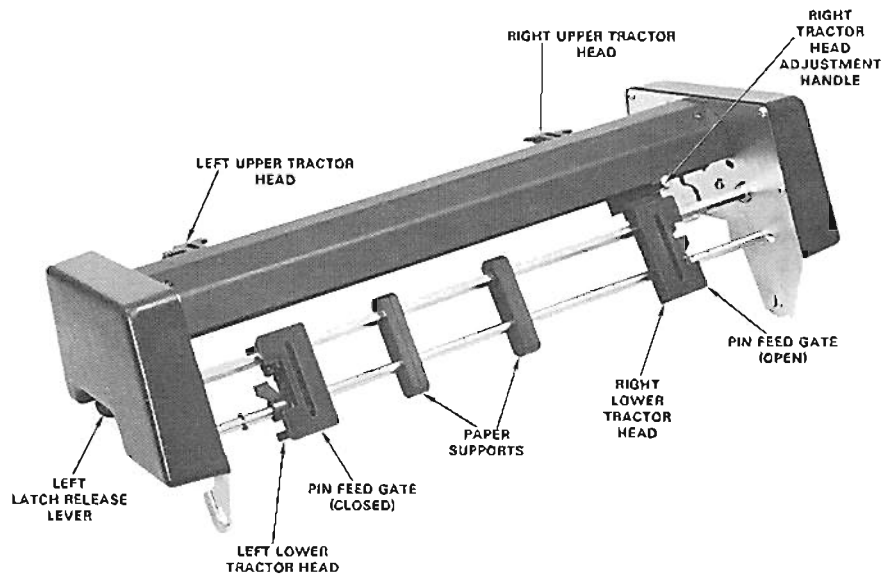

Figure E-2. Bidirectional Forms Tractor
4. Center the Bidirectional Forms Tractor over the printer. Grip and pull upward the spring-loaded Latch Release Levers (refer to Figure E-2) beneath both left and right end covers of the tractor.
6. Position the left side frame into the bushing groove on left end of platen, making sure that both left and right tractor latches engage the platen shaft. Release the latch levers to lock the tractor in place (refer to Figure E-2).
7. Position the two paper supports approximately one-third the paper width from each tractor (refer to Figure E-2).
1. Begin insertion of continuous form paper by guiding paper beneath the tilting rack mounted on the rear printer cover. Gently pull the paper and engage the first four holes of the left margin on the four pins of the upper left tractor head (refer to Figures E-2 and E-3).
2. Adjust the right-hand upper and lower tractor heads for the desired paper width. Note that both right-hand tractors are adjusted with a single handle. Open the pin feed gates on the forms tractor by gently pulling forward on the front of the gates. Engage the first four holes of the right margin on the pins of the upper right tractor head (refer to Figure E-2).
6. Load the paper into the left and right lower tractors. Close the pin feed gates by gently pushing them back (refer to Figure E-2).